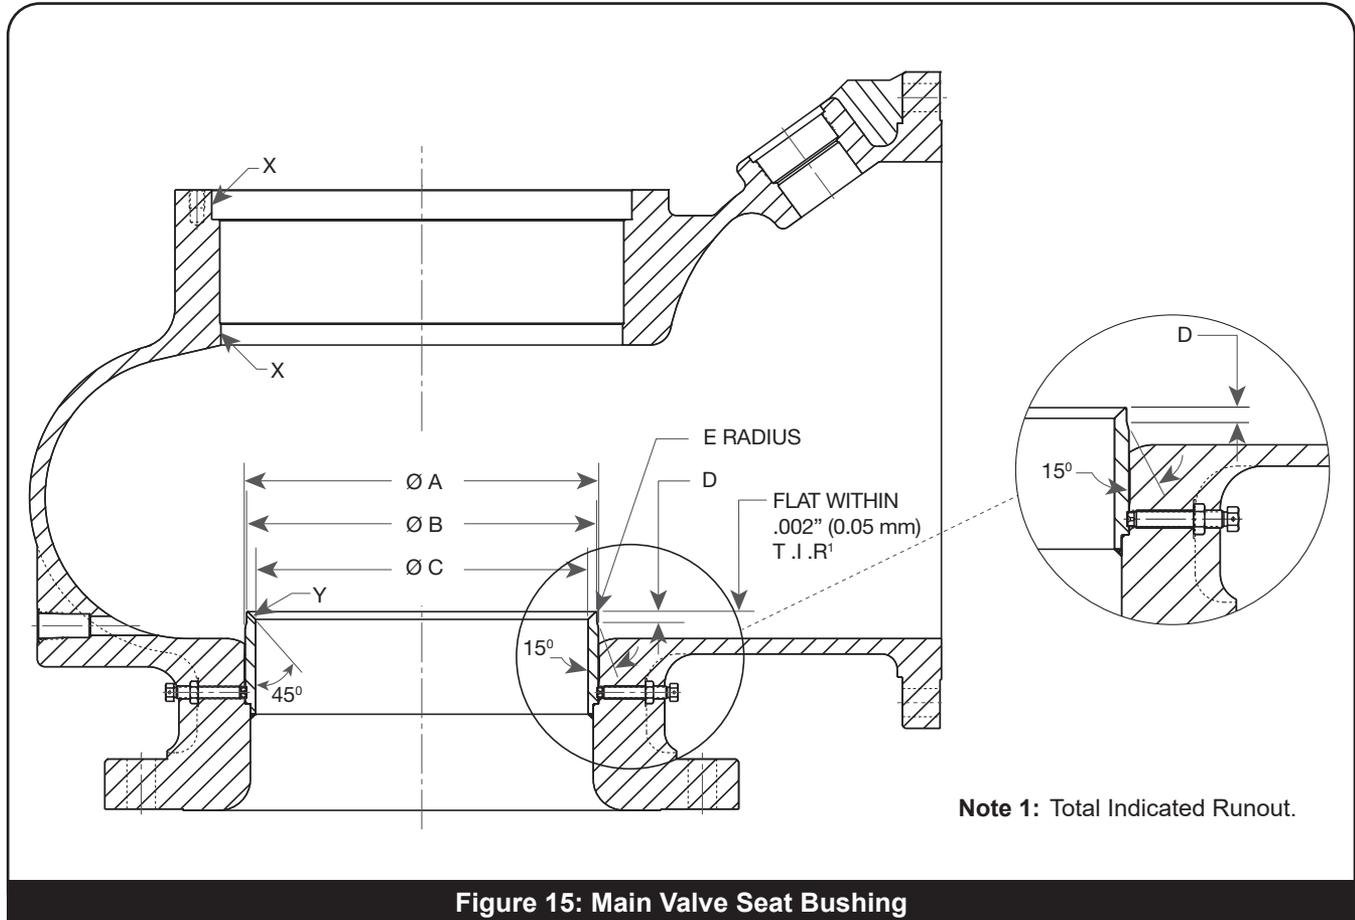

Figure 15: Main Valve Seat Bushing
If the seat bushing (2) seating surface must be replaced, the base assembly must be set up on an appropriate machine and the seat recut in accordance with the dimensions given in Figure 15 and Table 5.